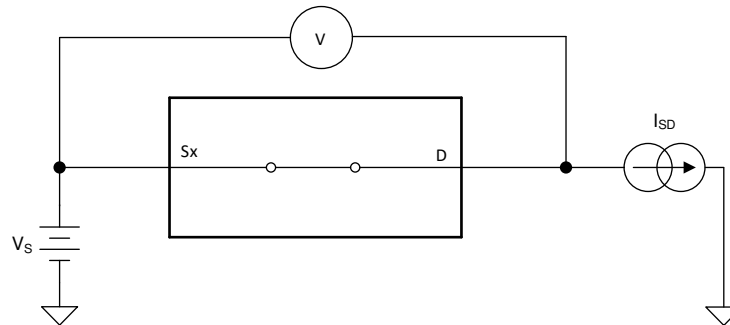

Figure 6-1. On-Resistance Measurement Setup
The on-resistance of a device is the ohmic resistance between the source (Sx) and drain (Dx) pins of the device. The on-resistance varies with input voltage and supply voltage. The symbol R_{ON} is used to denote on-resistance. The measurement setup used to measure R_{ON} is shown in Figure 6-1. Voltage (V) and current (I_{SD}) are measured using this setup, and R_{ON} is computed with $R_{ON} = V / I_{SD}$: